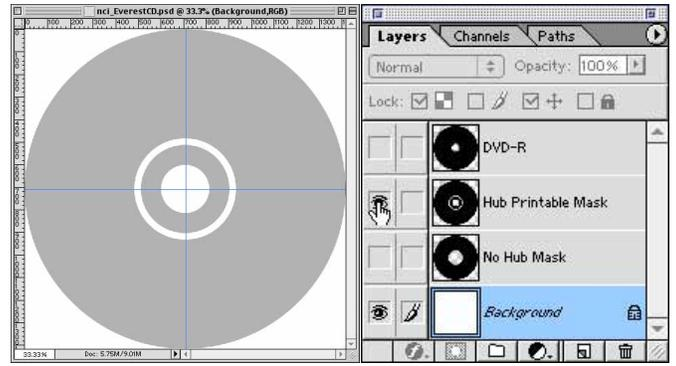

figure 1.
- 3.) Turn on the masking layer that represents the type of disc you want to print and turn off all the other masks. In this sample we will be making a hub printable CD-R so we turn on the "Hub Printable mask" layer and turn off the other two mask layers (figure 1).